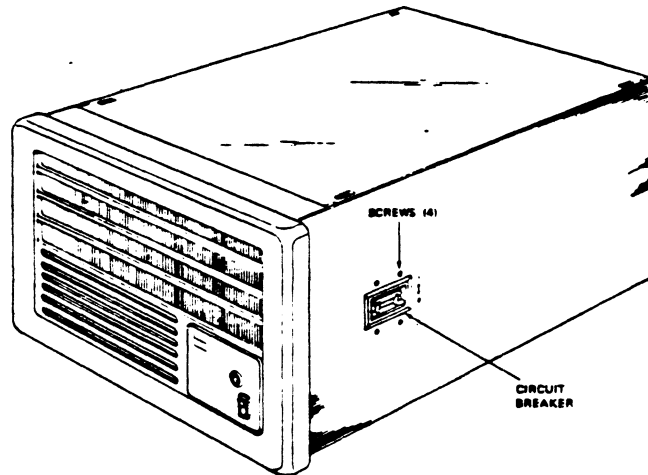

FIGURE 2-10 BOX FRONT VIEW
9. Turn the circuit breaker to OFF (0). See Figure 2-10.
4. Slide the box out approximately 6 inches and turn the circuit breaker to ON (1). See Figure 2-10.